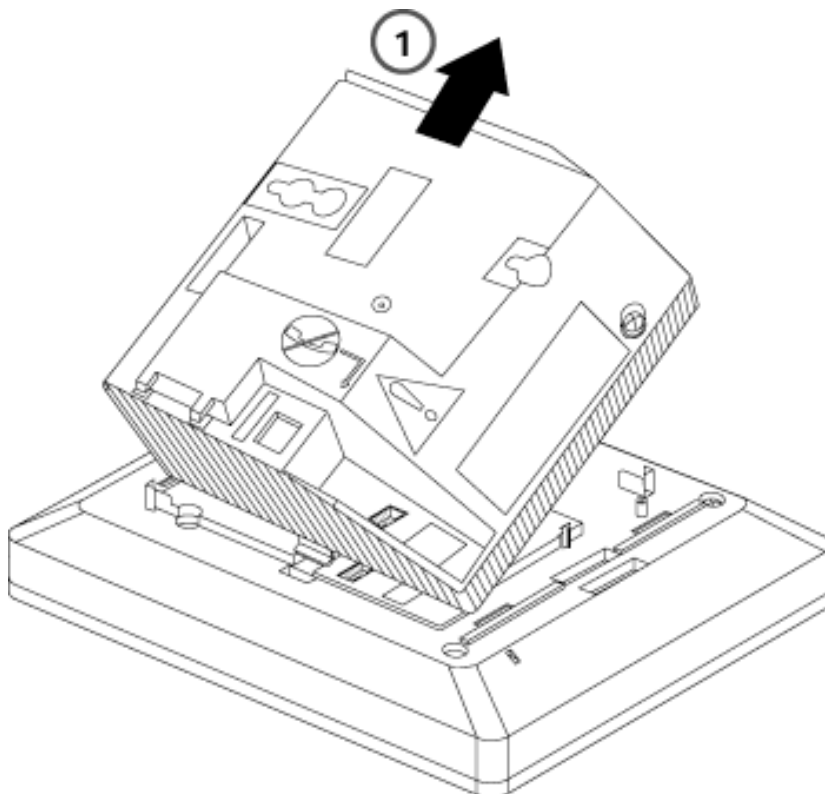

Figure 3-34. Removing the Module Cover
4. Lift module cover out of locating slot and set aside as shown in item 1 in Figure 3-34.